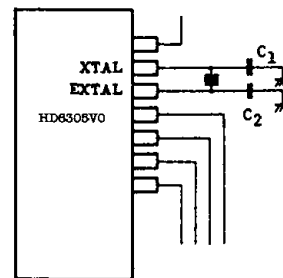

Figure 34 Design of Oscillation Circuit Board
- Board design of situating signal lines or power supply lines near the oscillator circuit as shown in Fig. 35, should not be used because of trouble in oscillation by induction. The resistor between the XTAL and EXTAL, and pins close to them should be 10M Ω or more. The circuit in Fig. 34 is an example of good board design.